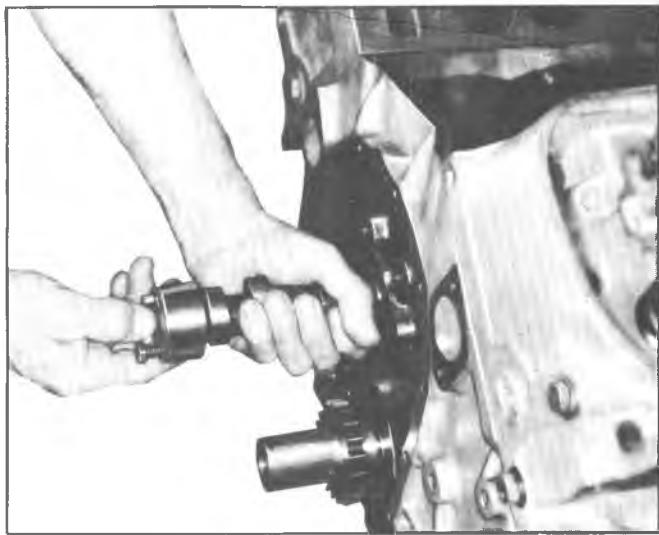

Fig. 29V—Removing Camshaft
6. Install two  $5/16'' \times 18 \times 4''$  bolts in camshaft bolt holes then remove camshaft (fig. 29V).